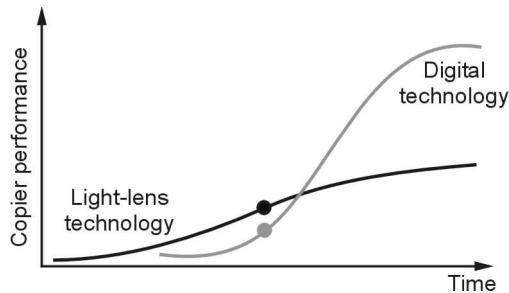

Fig. 6.3.3 Xerox Digital copier Technology
- The Fig. 6.3.3 shows the S-curve of the Xerox machine in which Xerox predicted that digital copier technologies would be in the early stages of development and that it would be able to develop a full-featured digital copier in the near future.